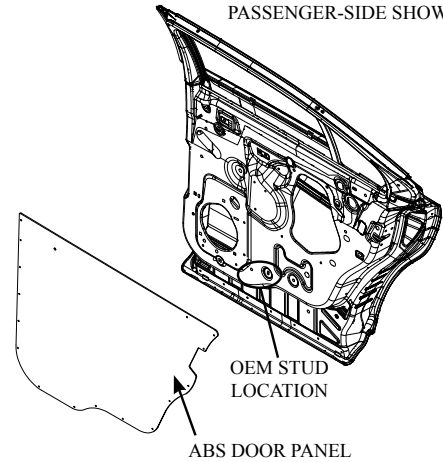

Fig. 11
B. Attach the remainder of the door panel with #8 x 5/8 self tapping screws. (See Fig. 11)